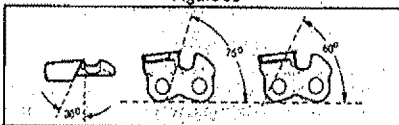

Figure 31
- f.) File 33SL chain to meet specifications shown in Figure 31.
Maintain the proper hook angle according to the manufacturer's specification for the chain you are using. Improper hook angle will increase the chance of kickback which can result in serious personal injury. Figure 31 & 33.